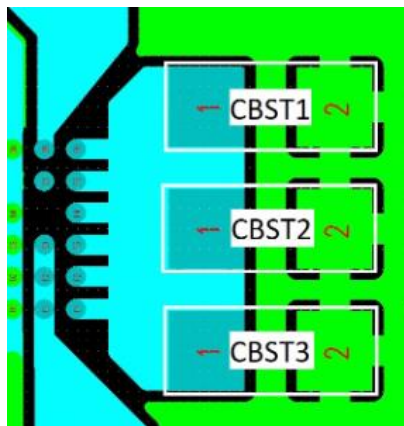

Fig 2: Excerpt from AN0486R1, showing recommended VBST and VDDP routing
**A1:** Each of the VDDP pins are internally connected to the same net on the CS35L38A. There are multiple pins provided on the package to handle the total current demands. In the CS35L38A Schematic and Layout Guidelines (AN0486R1) it is recommended that all VDDP pins are connected together via 8-10 mil traces to a shared copper flood (see Fig 2). That is the expected configuration for the device, and how it has been tested and qualified. Using an alternative configuration such as this proposal has not been tested by Cirrus.